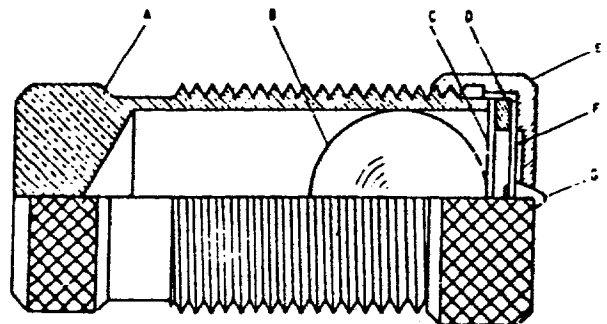

Fig. 4 Stationary Contact Assembly For Type CFD Relays
This makes contact with a rear extension of the moving contact arm. A shock backstop absorbs shock and reduces the tendency of the moving contact to close if the mounting panel is jarred. Fig. 4 shows the arrangement of the contact mechanism. The stationary contact (G) is mounted on a flat spiral spring (F) which is spaced from a thin diaphragm (C) by a washer (D). The cap (E) holds these in place on a slightly inclined tube (A) which contains a close fitting stainless steel ball (B), the energy of the moving contact is transferred to the spring and steel ball with the result that there is little or no rebound or vibration of the closing contacts.